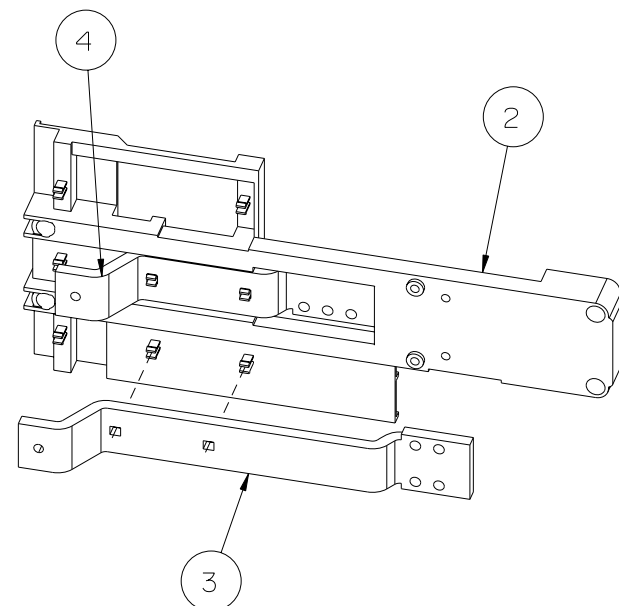

Figure 4
5. Reference fig. 4 - Installing the Phase Connectors. Align the two square holes in the Long Phase Connector (item 3) over the two snaps on the Strap Support Barrier (item 2) and press down latching the Phase Connector in place upon the Barrier. Repeat this step for the Medium Phase Connector (item 4).